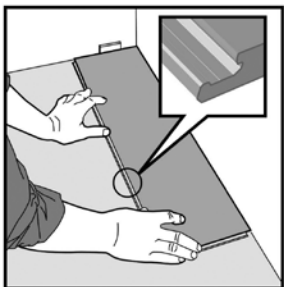
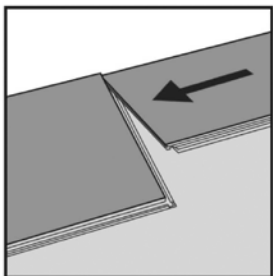
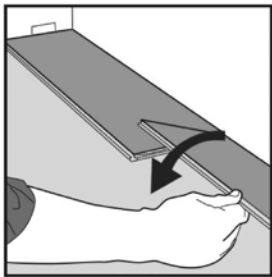
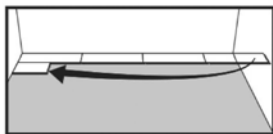

Fig. 1
Fig. 2
Fig. 3
Fig. 4
- Begin laying the floor in the left corner of the room. Dry lay a few rows (no glue or nails) before starting installation to confirm your layout decision and working line. Start the first row with the **tongue edge facing the wall**. Begin installing the first row by laying a board down flat on the subfloor (Fig. 1). Align the end of the second board (Fig. 2) with the first and simply push it straight down on top of first board (Fig. 3). Repeat this step to install the remaining boards in the first row. When cutting the last plank in a row to fit, you can use the cut-off end to begin the next row (Fig. 4). If cut-off end is less than 12", discard it and instead use one of the pre-cut row starter boards in the carton, or cut a new plank at a random length (greater than 12") and use it to start the next row.
- Begin laying the floor in the left corner of the room. **ALL BOARDS SHOULD BE INSTALLED WITH THE TONGUE SIDE FACING THE WALL.** (See figure 1)
- Begin installing the first row by laying a board down flat on the subfloor (figure 4). Align the end of the second board with the first and snap end locking system together by simply pushing it straight down on top of first board. Repeat this step to install the remaining boards in the first row. Cut the last board in the row to the necessary length or use an end board that was supplied in the carton. If leftover piece is 12" or longer, use it to begin the next row, or use start board supplied in the carton. (figure 2 &3).